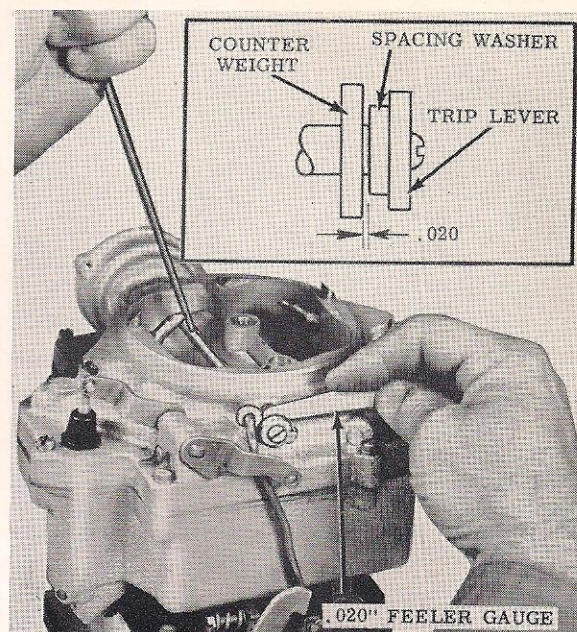

Figure 7-31
19. To provide correct fit of choke valve in air horn, push lightly on choke shaft to obtain a minimum clearance of .020" between spacing washer and lever and collar assembly. (Figure 7-31.) While holding in this position tighten choke valve retaining screws.